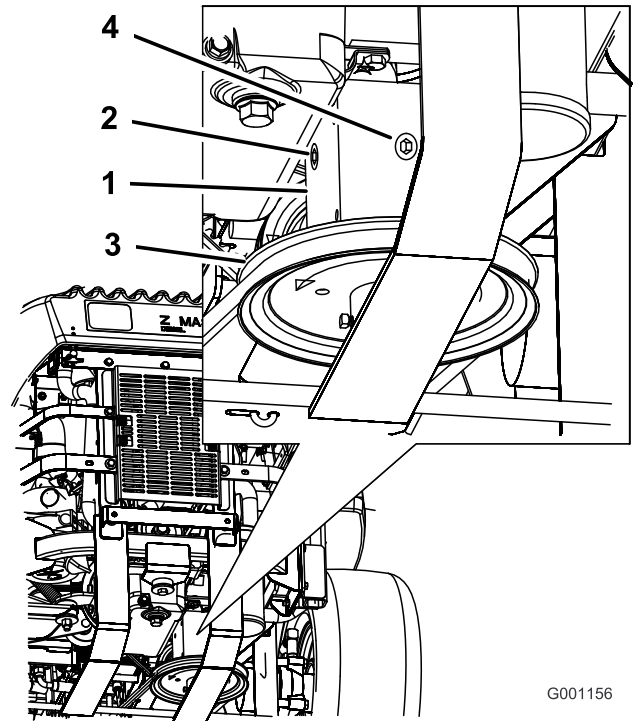

Figure 57
4. Remove the side or rear plug on the gear box. (Figure 57).